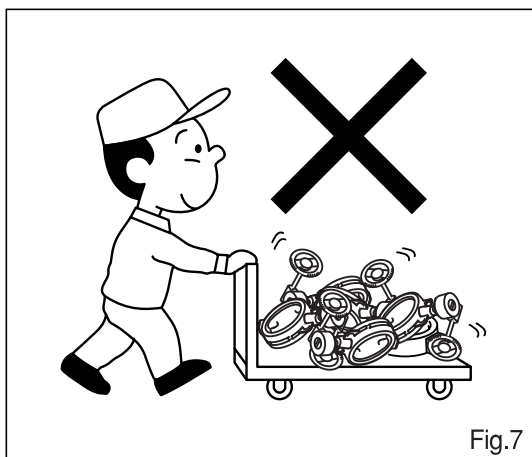

Fig.7
- **Cares while handling** : When valve to be kept/stored under packed condition, package(s) to be put on stable place so that collapse of package(s) to be avoided. Upon carriage, valve to be nicely loaded so that any collapse to valve could be avoided. When valve to be carried after removing packing, excessive force to valve to be avoided and cover-sheet to be put onto valve in dusty-place.(Fig.7)